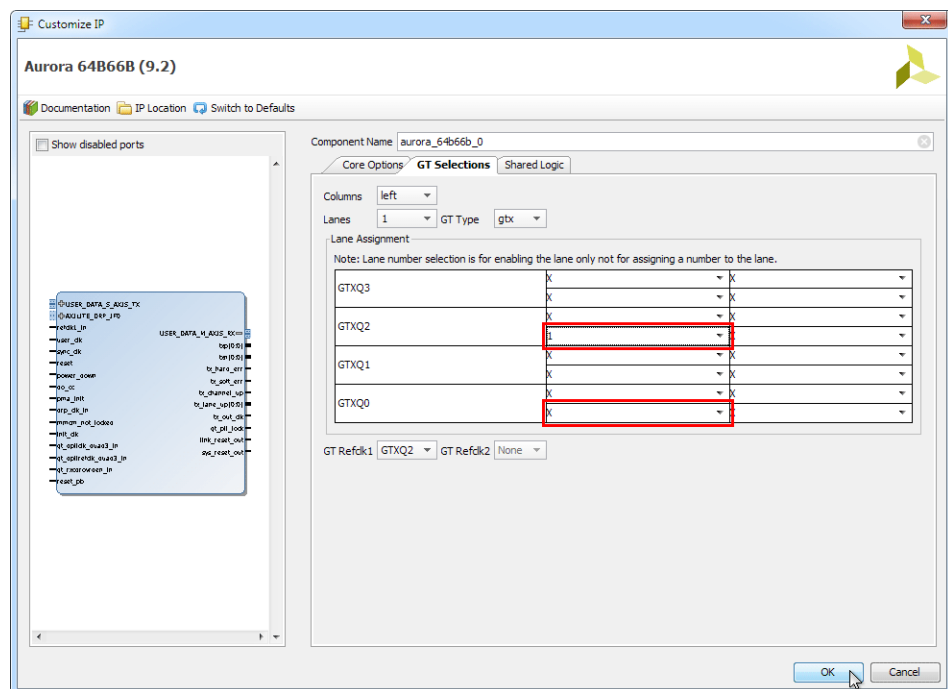

Figure 9: Aurora 64B/66B Simplex GT Selections
12. Change the lower list box setting for GTXQ2 from **X** to 1 (Figure 9).